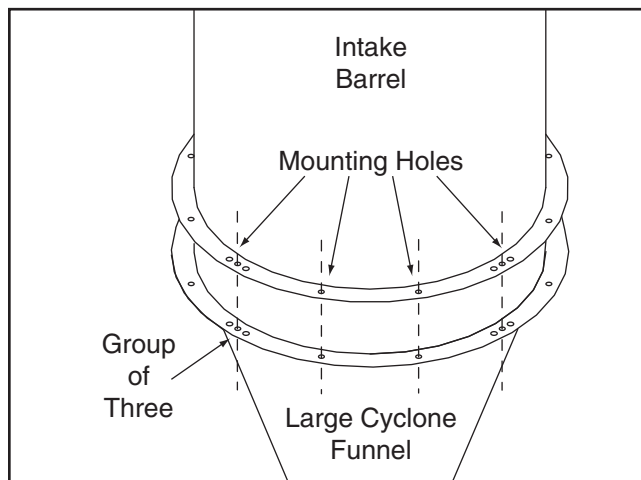

Figure 22. Intake barrel and large cyclone funnel mounting holes aligned.
11. With assistance, place the intake barrel over the large cyclone funnel and align the mounting holes as illustrated in **Figure 22**.
13. Install the four cyclone mounting brackets with (8) $\frac{3}{8}$ "-16 x $1\frac{1}{4}$ " hex bolts, (16) $\frac{3}{8}$ " flat washers, and (8) $\frac{3}{8}$ "-16 lock nuts (see **Figures 22 & 24**).